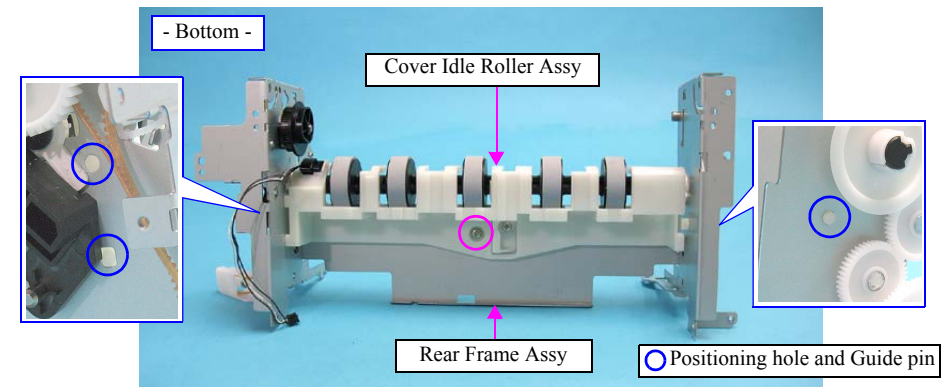

Figure 4-205. Removing the Cover Idle Roller Assy
- When installing the Cover Idle Roller Assy, insert its three guide pins into the holes of the Rear Frame Assy as shown in *Figure.4-205*.